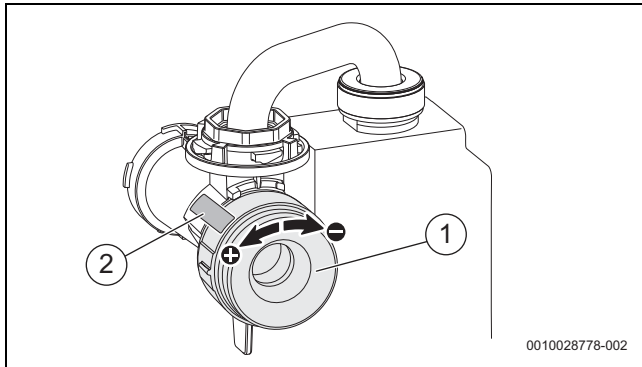

Fig. 100 Setting the adjustable venturi - CO₂/O₂ content
- ▶ Security Seal [2] (→ Fig. 100) must be removed before adjusting the Max CO₂/O₂ setting. Once adjustment has been made the seal must be replaced with part number 8 737 708 988.
Refer to figure 100.